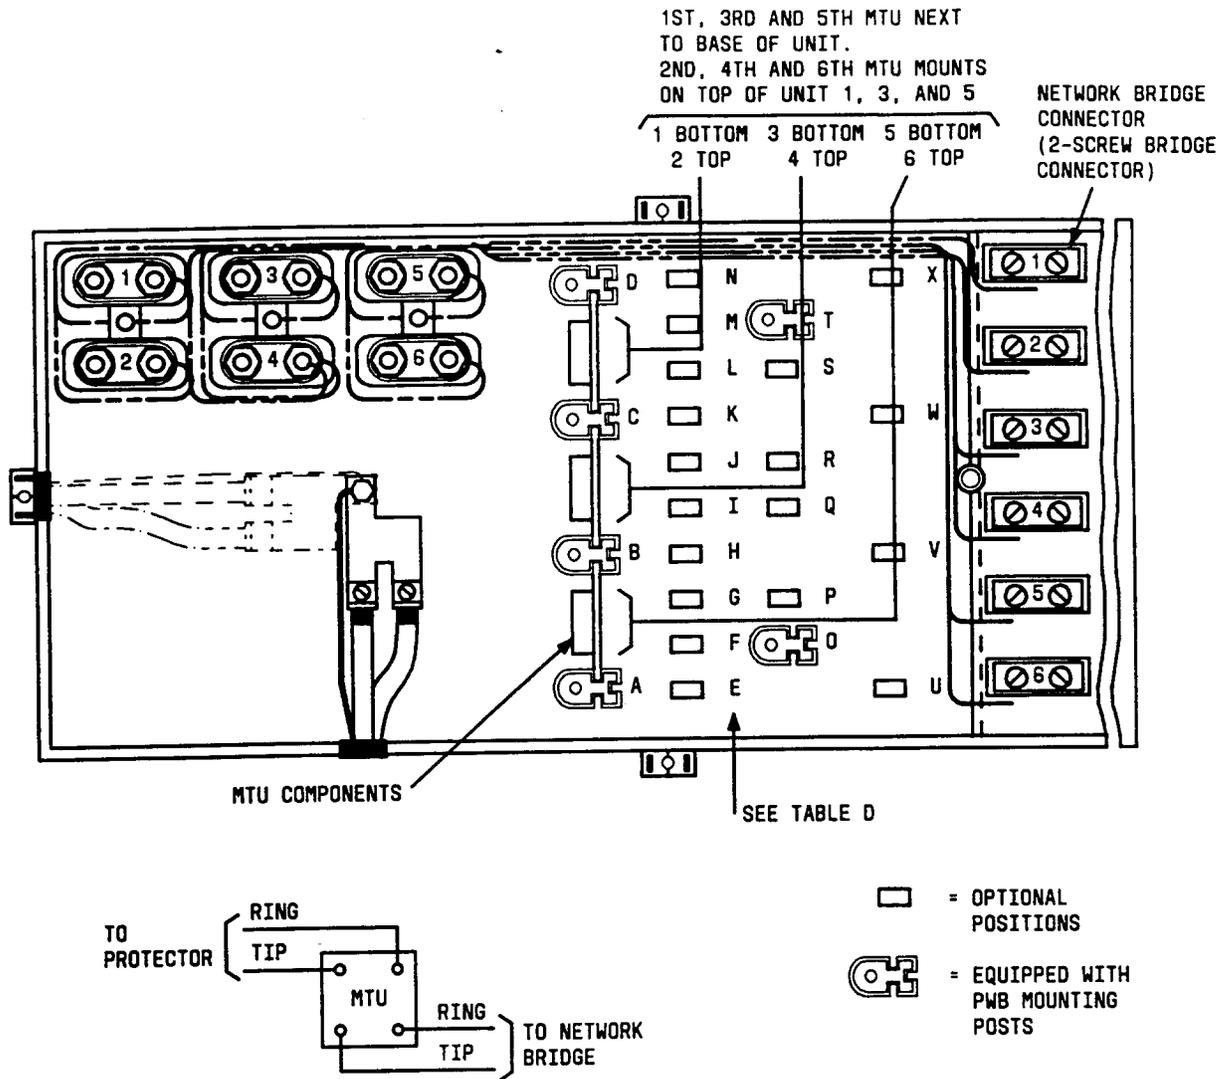

Fig. 16—Installing MTUs In 6-Pair Configuration — Horizontal or Vertical Mount
- (1) Install MTUs into PWB posts in a stacked edge-wise arrangement as shown in Fig. 16 and 17.
- (2) Install MTU components as shown in Fig. 16 or 17.
- (3) Wire termination as noted in Fig. 16 or 17.
Note: 1. Other arrangements possible but all are not usable simultaneously. See Fig. 16.